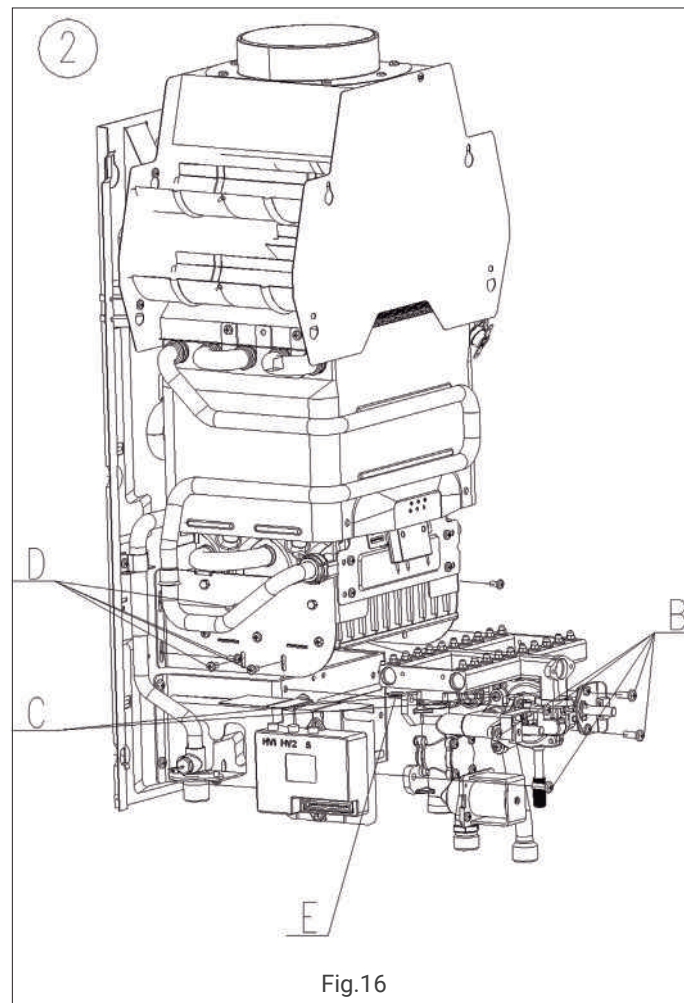

Fig.16
2. Unscrew the connection between water-gas valve and its support, remove the clip which fixes the connection of water valve and water inlet pipe of burner. Remove cable connection for water-gas valve and earthing (fig.16,step B).
3. Unscrew the connection between water-gas valve and the gas manifold.(fig.16,step C).
4. Unscrew the connection between gas manifold and both side brackets in the burner. Loosen the rest screws for both sides brackets to completely release the manifold(fig.16,step D), then take out the manifold.
Operate the replacement slowly and make sure not to damage any of the sealing gaskets and put them in the right positions. It's recommended to have them replaced with new one (fig.16,step E).